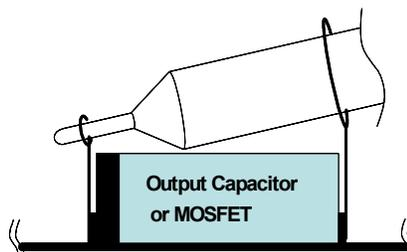

Figure 2. Proper Probe Setup to Measure Output Ripple and Phase Node Ringing
- (2) Turn on the power supply.
- (3) Adjust the input voltage V_{IN} within the specified range and observe the output voltage. The output voltage variation should be within 3%.
- (4) Adjust the load current within the specified range and observe the output voltage. The output voltage variation should be within 3%.
- (5) Use an oscilloscope to observe output voltage ripple and phase node ringing. For accurate measurement, refer to Figure 2 for proper test setup.